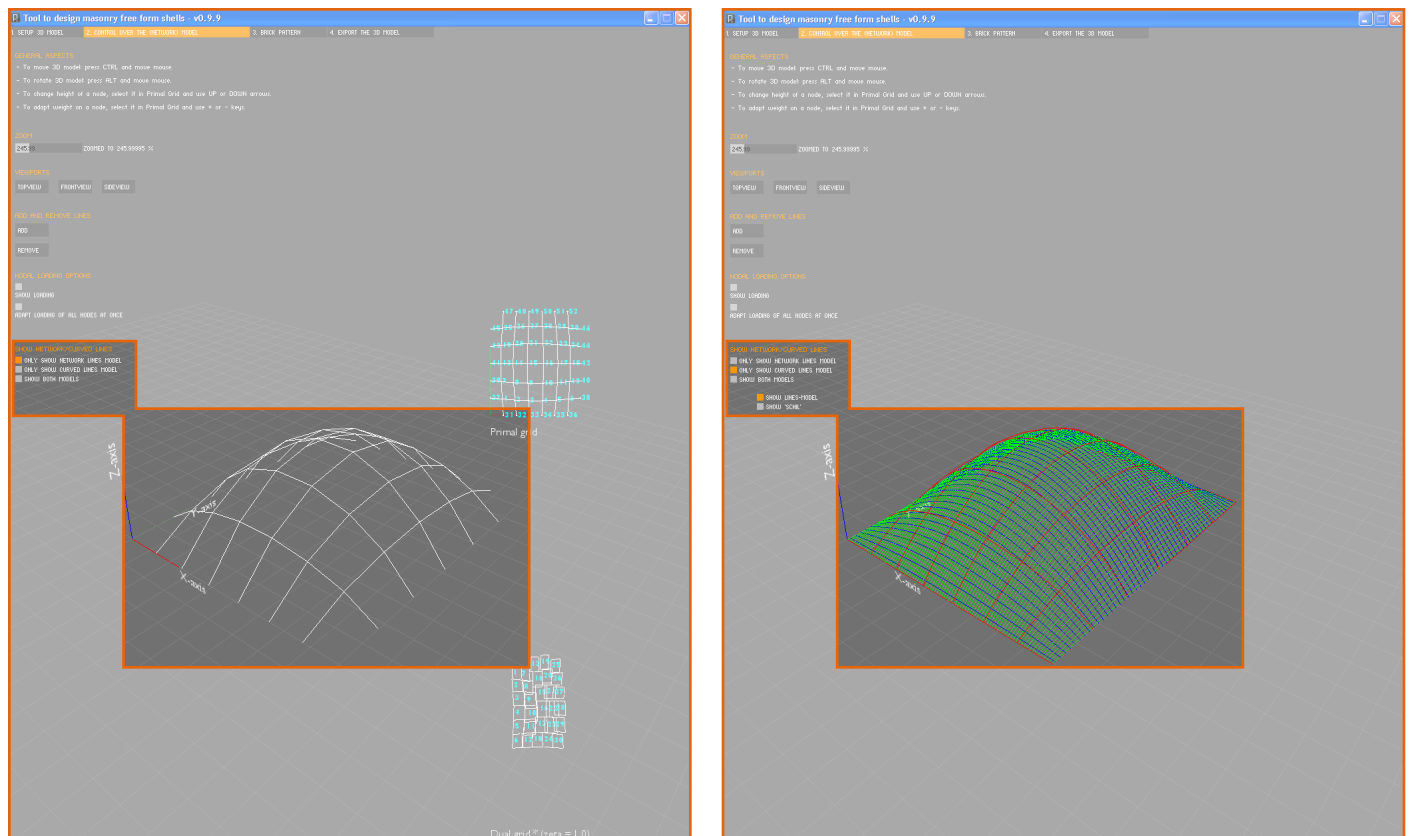

Figure F-7 - Tab 2: display the force network model (left), the curves-surface model (middle) or the polygon surface model (right)
2. With the radiobuttons, choose whether to show (Figure F-7):